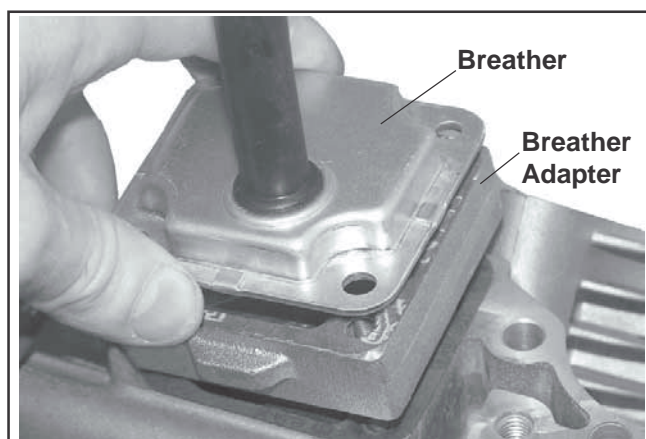

Figure 8-48. Removing Breather Assembly.
2. Carefully break the gasket seals and remove all parts. Do not pry on the sealing surfaces as it could cause damage resulting in leaks. Note the assembly and orientation of parts. See Figures 8-48 and 8-49.